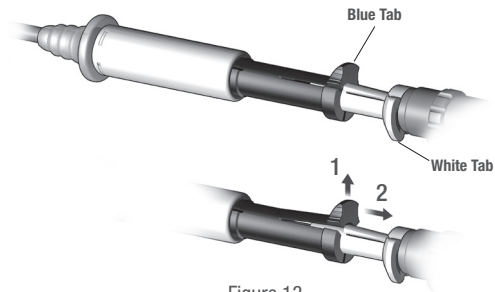

Figure 13
b. As shown in Figure 13, with the other hand, (1) grasp the **blue tab** and lift it up and over the step on the white base. (2) Slide the **blue tab** to the “**HOME**” position, until it is flush with the white base.